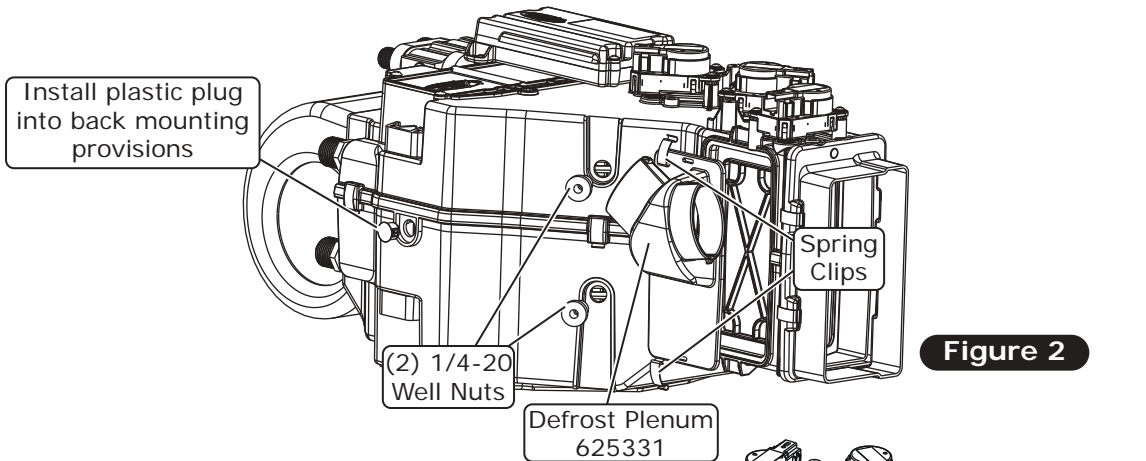

Figure 2
3. Install the defrost plenum using spring clips as shown in Figure 2, below.
4. Insert (2) 1/4-20 well nuts in the locations shown in Figure 2, below.
5. Install a plastic plug at the location shown in Figure 2, below.